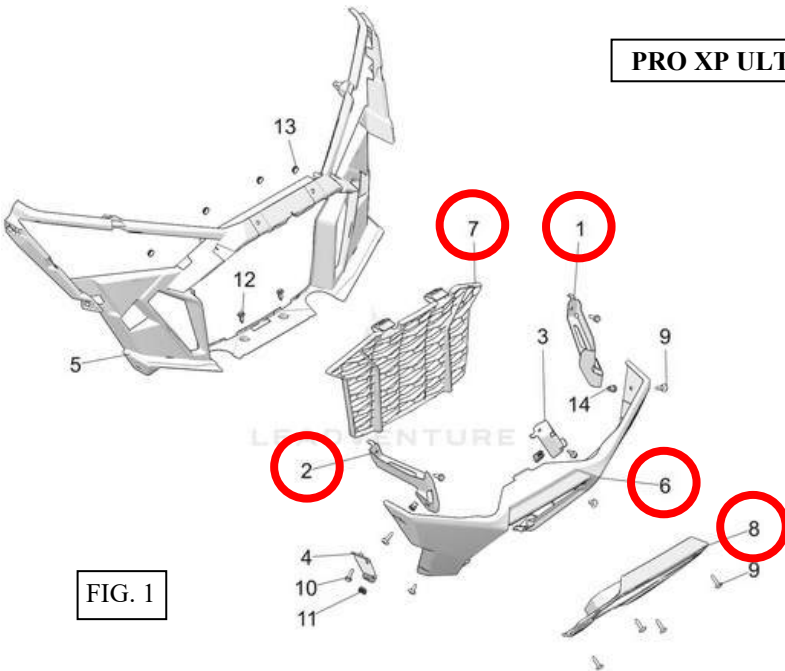

FIG. 1
2. Remove the following components and their respective hardware according to the manufacturer’s assembly drawing below (Fig. 1).